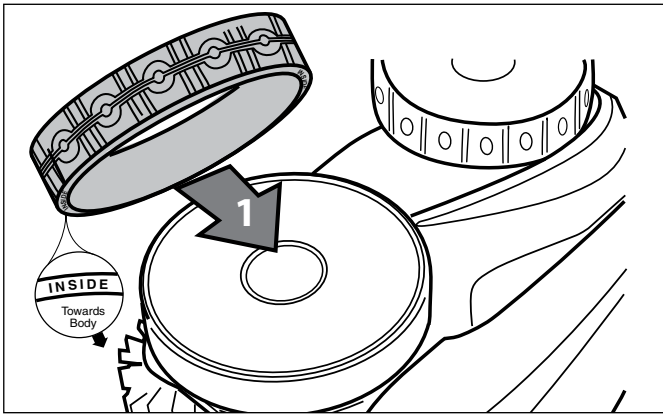

Figure 37. Tire Replacement Orientation
3. To replace the tire, position the tire on the wheel making sure to orient the tire so that the word INSIDE is toward the body of the cleaner (Figure 37).